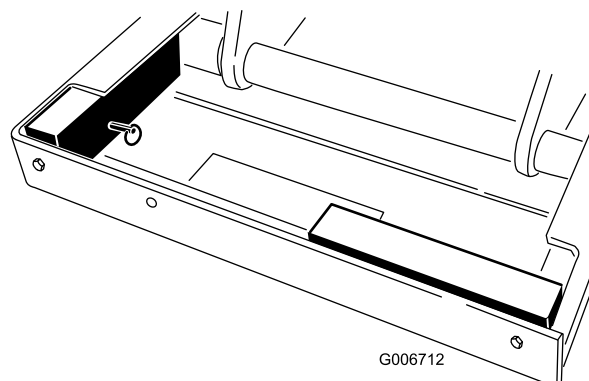

Figure 24
7. Rotate safety blocks 90 degrees in channel and secure to ends of lift frame with retaining pins (Figure 24).